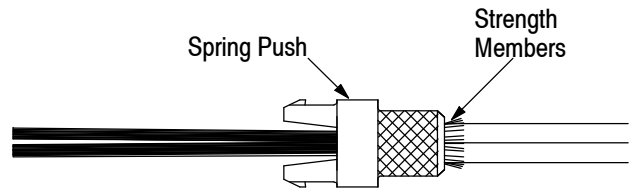

Figure 13
5. Using the shears, trim the aramid strength members back to the cable jacket. See Figure 13.